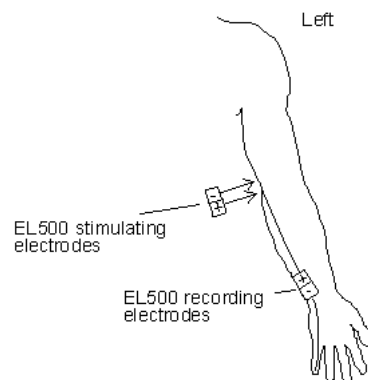

Figure 2: Electrode placement on the left arm (note the polarity)
2. Place another EL500 dual electrode lengthwise along the ulnar nerve at the inside of the wrist, slightly toward the little finger (see Figure 2 below).